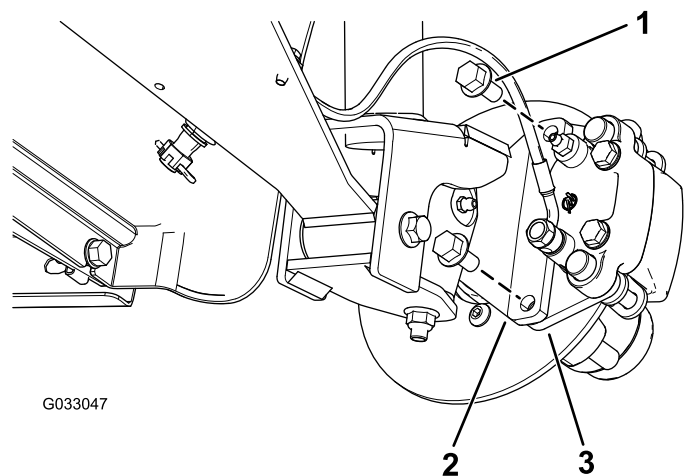
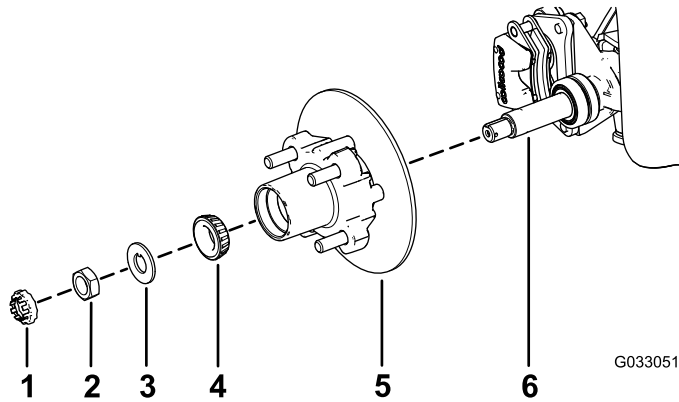

Figure 30
Figure 34
3. Remove the flange-head bolts (3/8 x 3/4 inch) that secure the bracket for the brake assembly to the spindle and separate the brake from the spindle (Figure 30).
1. Apply a light coat of the specified grease to the spindle (Figure 34).
2. Assemble the hub and rotor onto the spindle with the rotor inboard (Figure 34).
3. Assemble the outboard bearing onto the spindle and seat the bearing to the outboard race (Figure 34).
4. Assemble the tab washer onto the spindle (Figure 34).
5. Thread the spindle nut onto the spindle and tighten the nut while rotating the hub (Figure 34).
2. Align the brake pads to either side of the rotor (Figure 30) and the holes in the caliper bracket with the holes in the brake mount of the spindle frame (Figure 34).
3. Assemble caliper bracket to the spindle frame (Figure 30) with the 2 flange-head bolts (3/8 x 3/4 inch), and torque the bolts 47 to 54 N·cm (35 to 40 ft-lb).